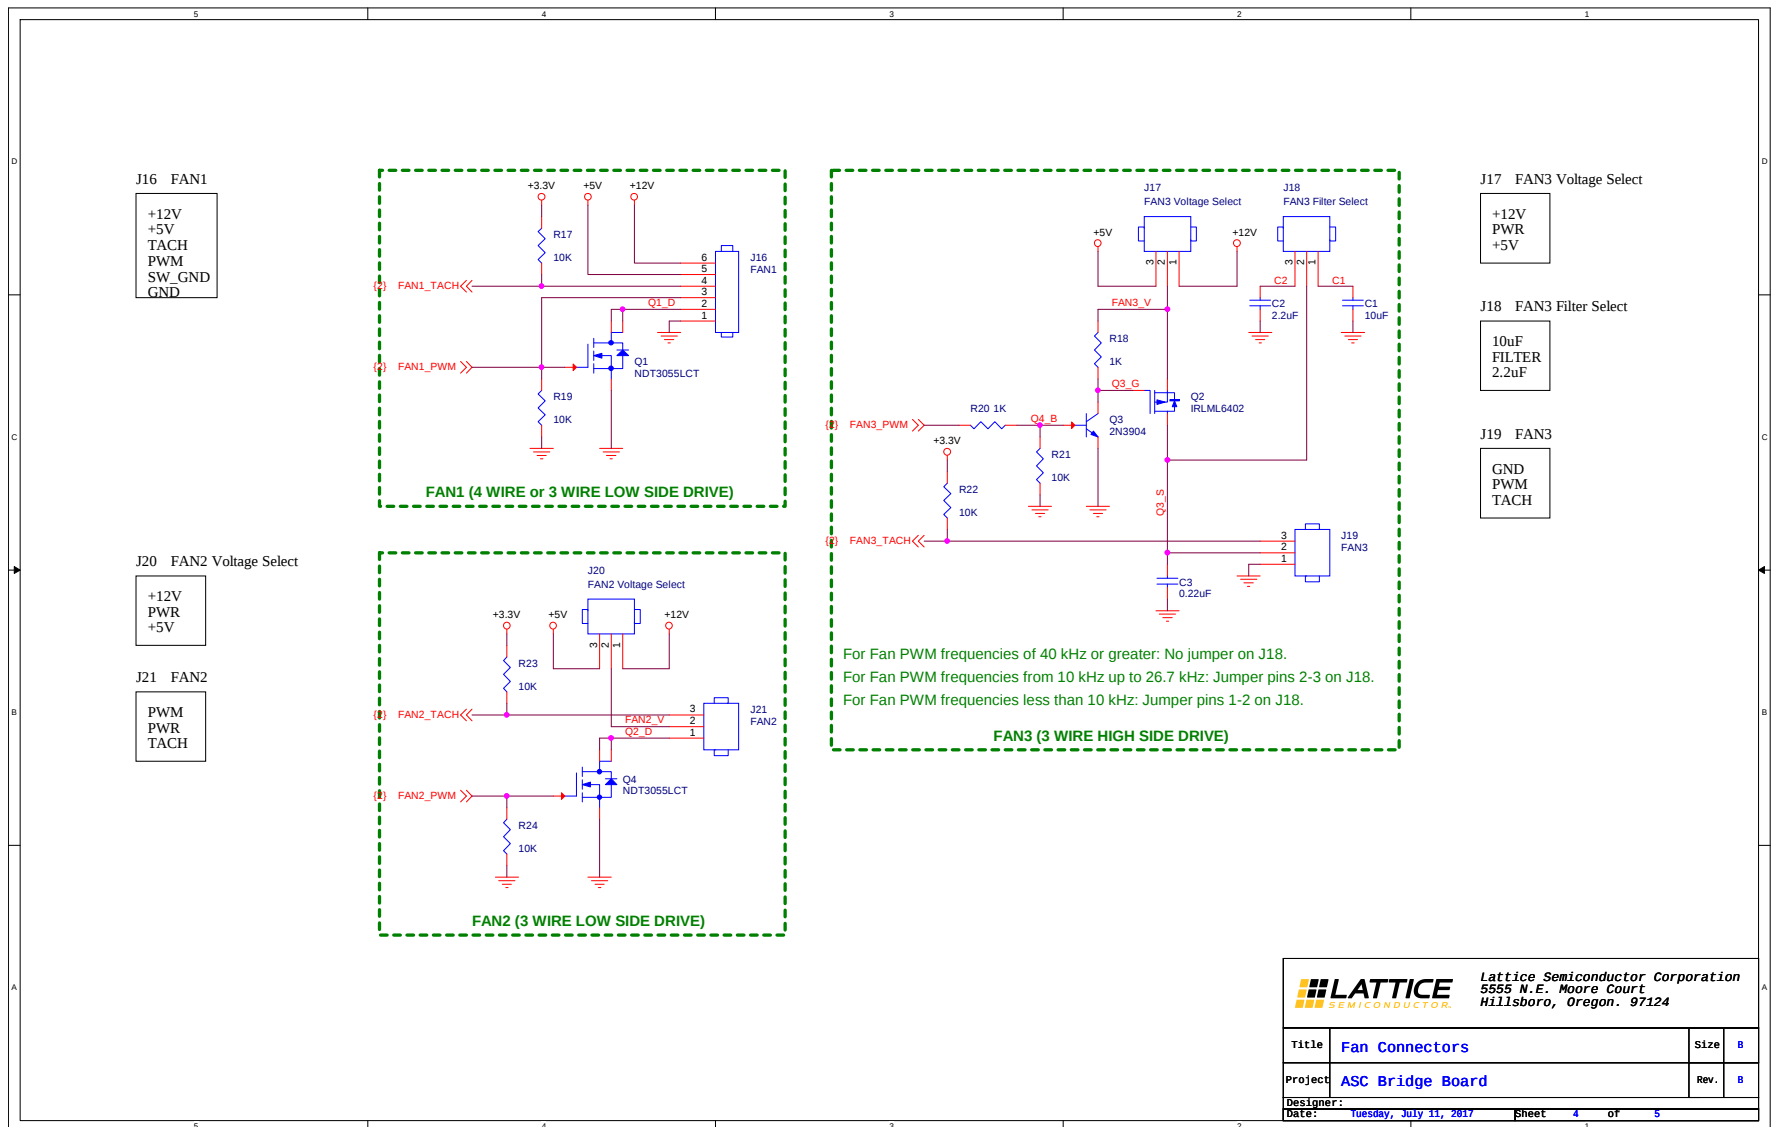

Figure A.4. Fan Connectors
***Note:** J16 pin 2 is buffered and inverted from the signal FAN1_PWM. See Figure A.4 in the Appendix A. Board Schematics section for additional details.
***Note:** J21 pin 1 is buffered and inverted from the signal FAN2_PWM. See Figure A.4 in the Appendix A. Board Schematics section for additional details.
***Note:** J19 pin 2 is buffered from the signal FAN3_PWM. See Figure A.4 in the Appendix A. Board Schematics section for additional details.